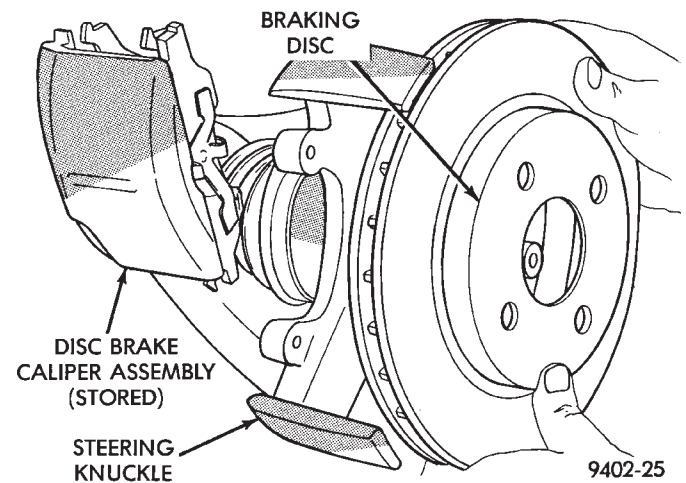

Fig. 66 Removing/Installing Front Braking Disc
(6) Remove braking disc from front hub (Fig. 66).
(2) Tighten the wheel lug nut, pulling the wheel stud into the flange of the hub and bearing assembly. When the head of the stud is fully seated against the bearing flange, remove lug nut and washers from wheel stud.
(3) Install braking disk back on front hub (Fig. 66).